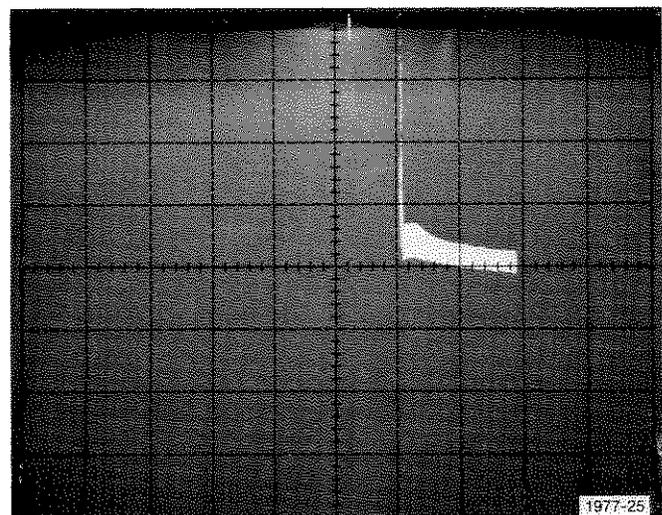

Fig. C-7. Power supply rejection ratio (+ and - psrr).
- a. Check the power supply rejection ratio (\pm PSRR, see Fig. C-7). \pm PSRR is the power supply voltage swing (horizontal deflection) divided by the change in input voltage due to power supply variation (vertical deflection); e.g.,
Specifications for the 727 list 80 μ V/V as typical; Fig. C-7 shown 16 μ V/V for the device tested in writing this procedure.